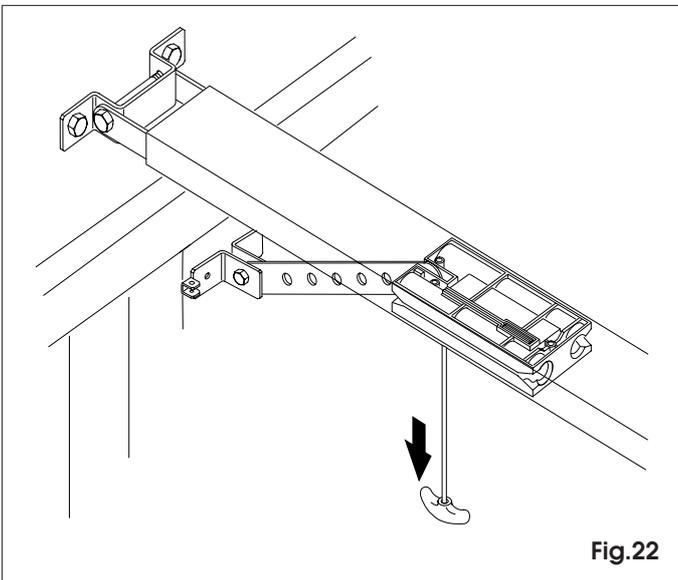

Fig.22
7.18 Release the operator, by pulling the release lever downward (fig.22).